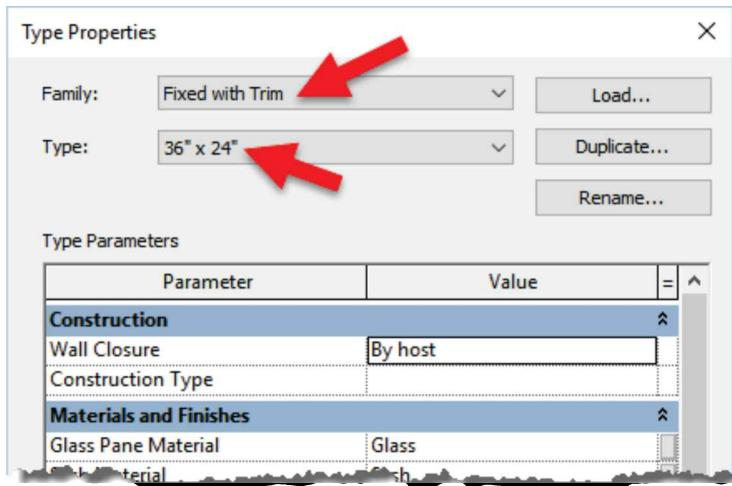

FIGURE 5-4.14 Type Properties – Family: Fixed with Trim; Type: 36" x 24"
20. Set the *Family* drop-down to **Fixed with Trim** and then set the *Type* drop-down to **36" x 24"** (Figure 5-4.14). **Do not select the Double Hung window!**